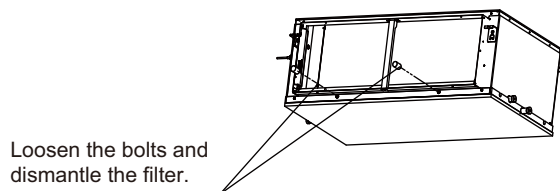

Figure 13.1
- Dismantle the air filter(Refer to Figure 13.1).